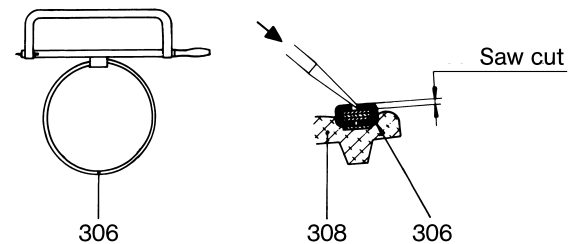

Figure 1: Removal of the clamping band.
- Cut buckle on clamping band (306) with a metal saw, and with a screw driver, press out to both sides. Remove clamping band (306) from the cover sleeve (308) (please refer to Figure 1 below).